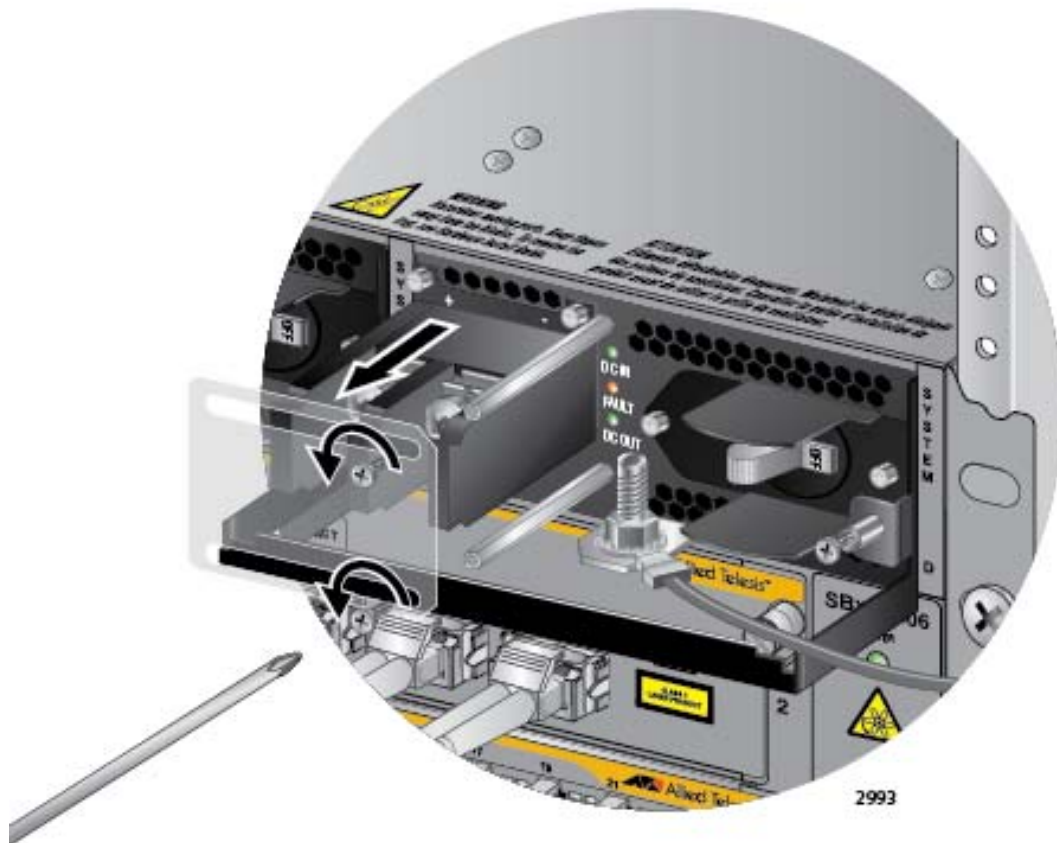

Figure 143. Removing the Plastic Cover
- Using a #1 Phillips-head screwdriver, remove the two screws that secure the plastic cover over the positive and negative terminals and remove the plastic cover from the power supply, as shown in Figure 143. You may need to lift the locking handle slightly to access the bottom screw.